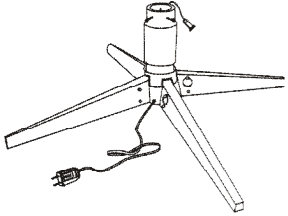

**Fig.1**
3. Insert lower section(C) into the tree base(D) (see Fig.1); Insert the middle section (B) into (C) (see Fig. 2); Insert the top section (A) into (B) (see Fig. 3).
1. Tree stand parts include: rotating metal stand, eye bolts and screw bolts. (See Fig.1)